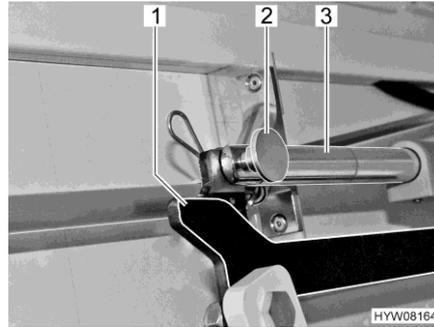

Fig. 104 Drive (pull-down bed)
- Remove the connection (securing splint and pin) (Fig. 104,2) between push rod (Fig. 104,3) and lever (Fig. 104,1).
- Grip it from the bottom, between the side wall and the pull-down bed lever, and undo the connection (securing splint and pins) (Fig. 104,2) between the push rod (Fig. 104,3) and the lever (Fig. 104,1).